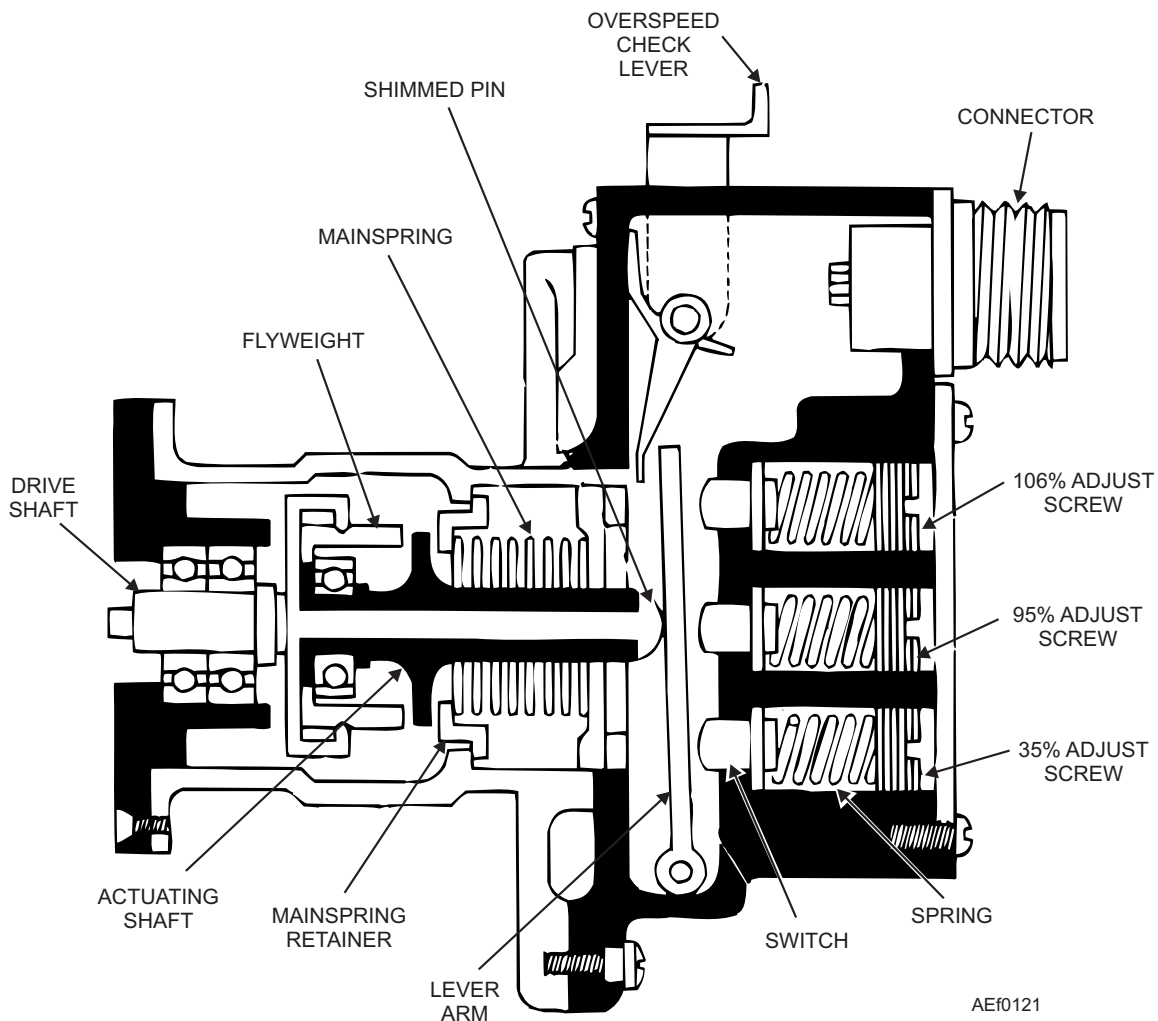

Figure 1-21.—Centrifugal switch assembly.
**CENTRIFUGAL SPEED SEQUENCE SWITCH.**—This component (fig. 1-21) controls the sequence of operation of various electrical components. The input drive shaft turns a knife-edged fulcrum (flyweight support) and a pair of flyweights pivots on the knife edges. Each flyweight has a toe that lies under the outer race of a ball bearing on the actuating shaft. As the centrifugal switch turns, centrifugal force causes the flyweights to pivot, moving the actuating shaft to the right against the lever arm. The three electrical switches actuate at 35%, 95%, and 106% of turbine speed. These switches are fine adjusted by applying spring tension to the lever arm with the three adjustment screws shown in figure 1-21. The functions of the switches are as follows: